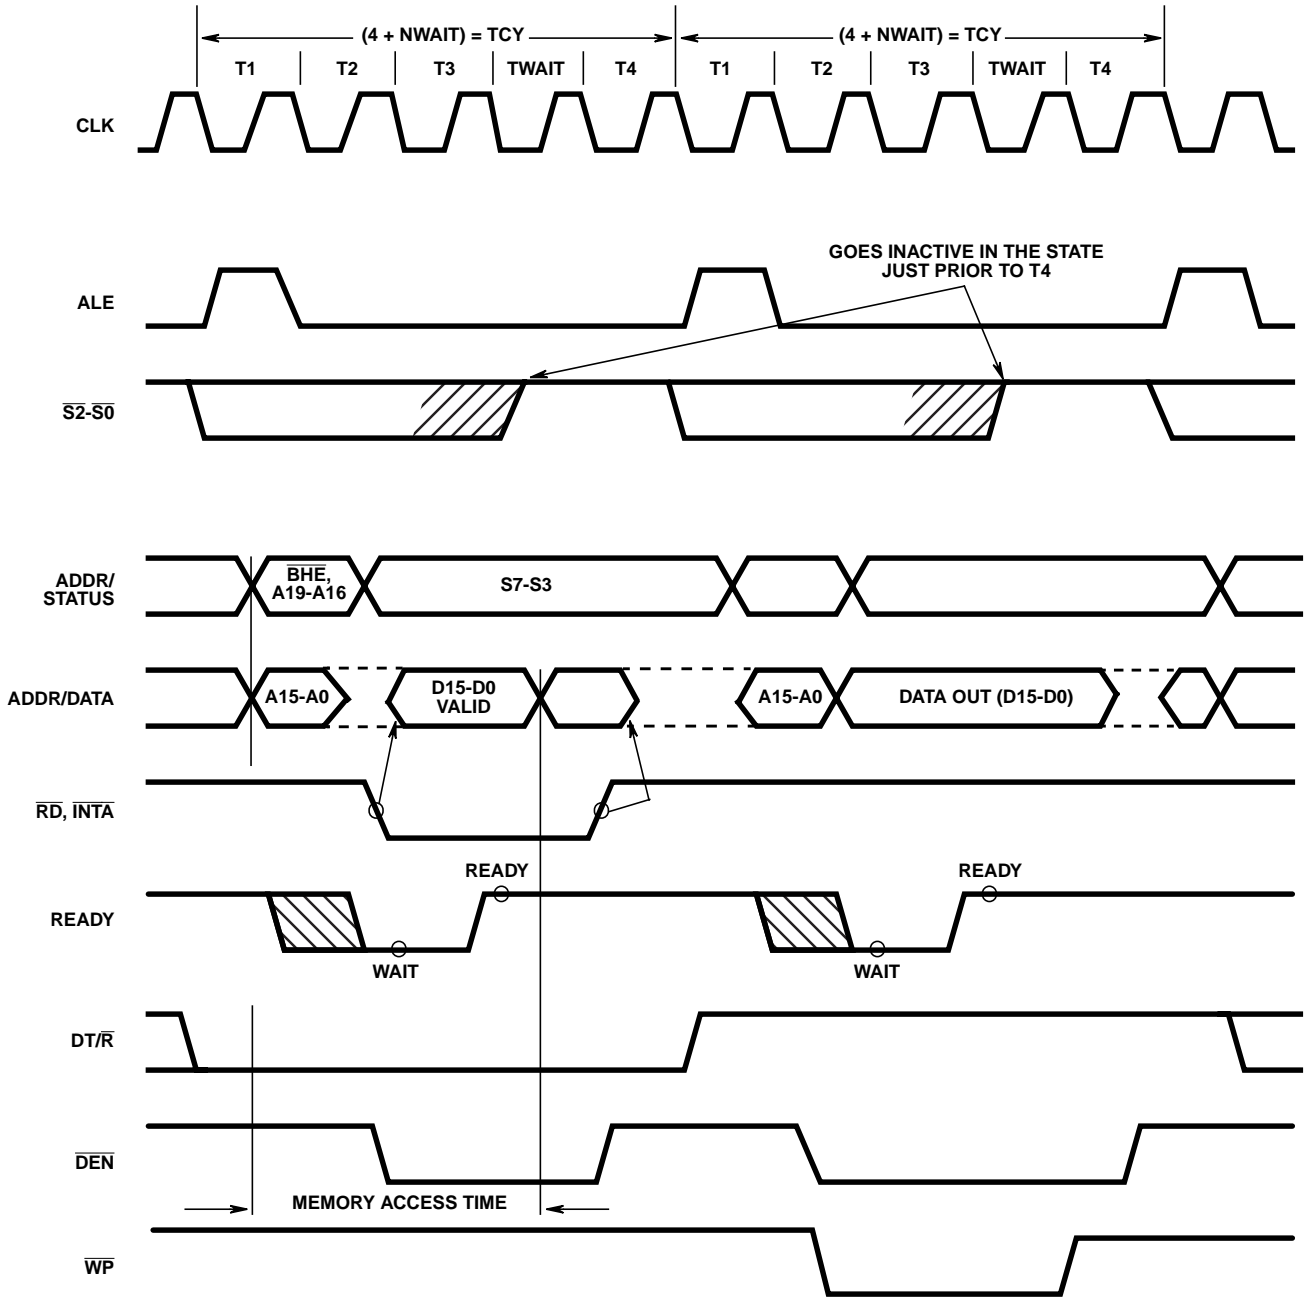

FIGURE 3. BASIC SYSTEM TIMING
Each processor bus cycle consists of at least four CLK cycles. These are referred to as T1, T2, T3 and T4 (see Figure 3). The address is emitted from the processor during T1 and data transfer occurs on the bus during T3 and T4. T2 is used primarily for changing the direction of the bus during read operations. In the event that a “NOT READY” indication is given by the addressed device, “Wait” states (TW) are inserted between T3 and T4. Each inserted wait state is the same duration as a CLK cycle. Idle periods occur between HS-80C86RH driven bus cycles whenever the processor performs internal processing.
Typical system configurations for the processor operating in minimum mode and in maximum mode are shown in Figures 6A and 6B, respectively. In minimum mode, the MN/MX pin is strapped to VDD and the processor emits bus control signals (e.g. $\overline{\text{RD}}$, $\overline{\text{WR}}$, etc.) directly. In maximum mode, the MN/MX pin is strapped to GND and the processor emits coded status information which the 82C88 bus controller used to generate MULTIBUS™ compatible bus control signals. Figure 3 shows the signal timing relationships.